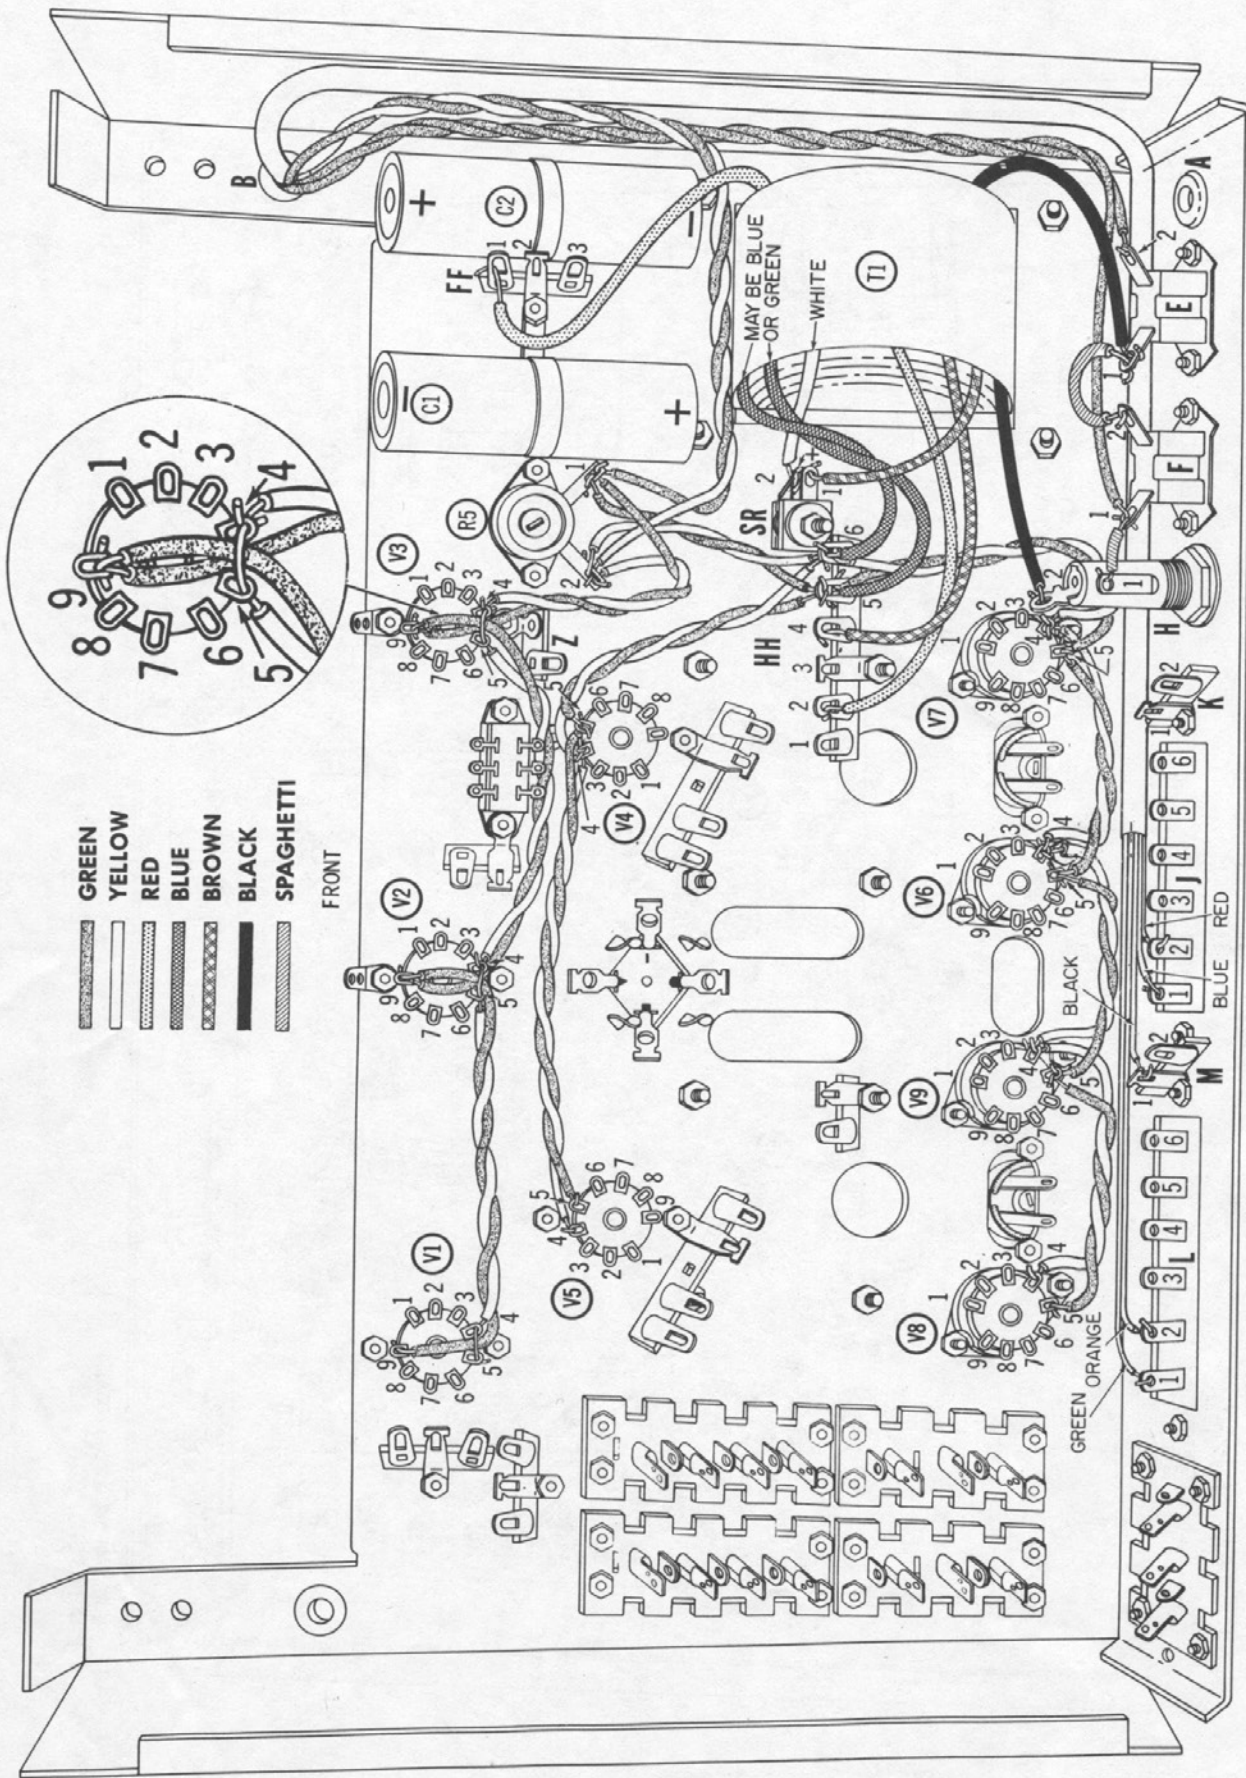

Fig. 12.
Refer to Figs. 12 Through 14 and Page 61
- () 75. Refer to Fig. 12 and connect a 1 1/2" length of bare hook-up wire [use thin spaghetti (insulated tubing)] from E1 (Don't Solder) to F2 (Solder: 1).
- () 76. Refer to Fig. 12 and connect a 1 1/2" length of bare hook-up wire (use spaghetti) from F1 (Solder: 2) to H1 (Solder: 1).